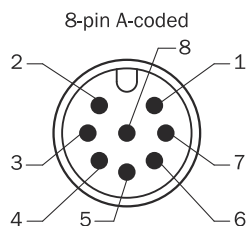

Figure 2: View of the plug-in face
- ▶ Loosen the TORX screw (1) on the clamping ring (2) with a TORX wrench T10.
- ▶ Take note of the installation (figure 2).
- ▶ Fix the stator coupling (3) with 4 M3 screws and washers (4).
- ▶ Firmly tighten the TORX screw (1) on the clamping ring (2), tightening torque 1.1 Nm.